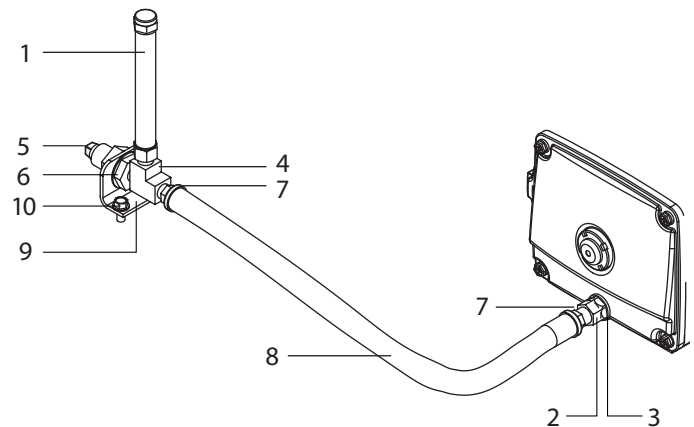
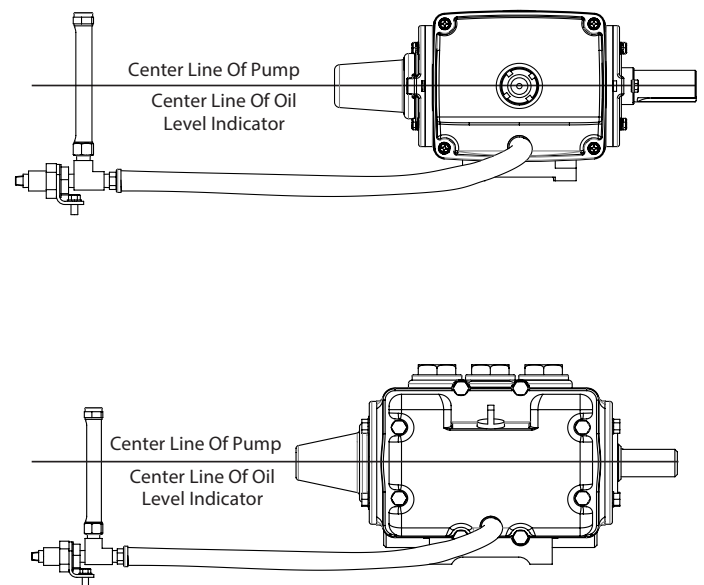

Figure 2
Figure 3
3. Install ¼" BSP fitting (Figure 2, item 2) with o-ring (3) into rear cover of pump.
4. Attach hose barbs (7) to each end of ⅜" hose (8).
5. Thread one end of hose (8) into fitting (2) of rear cover.
6. On opposite end of hose (8), thread in tee (4). Position tee (4) with female threads up.
7. Remove nut from ¼" union fitting (6).
8. Thread in hose (8) with tee (4) to large end of union fitting (6).
9. Mount bracket (9) with screws (10) into desired position such that the centerline of the sight area of the crankcase oil level indicator (1) is at the same center line of the pump (See Figure 3)
10. Install hose assembly through mounting bracket (9)
11. Reinstall nut onto threads of union fitting (6) and tighten.
12. Thread in square end plug (5) into open end of union fitting (6).
13. Thread in crankcase oil level indicator (1) into open port of vertical leg of tee (4).